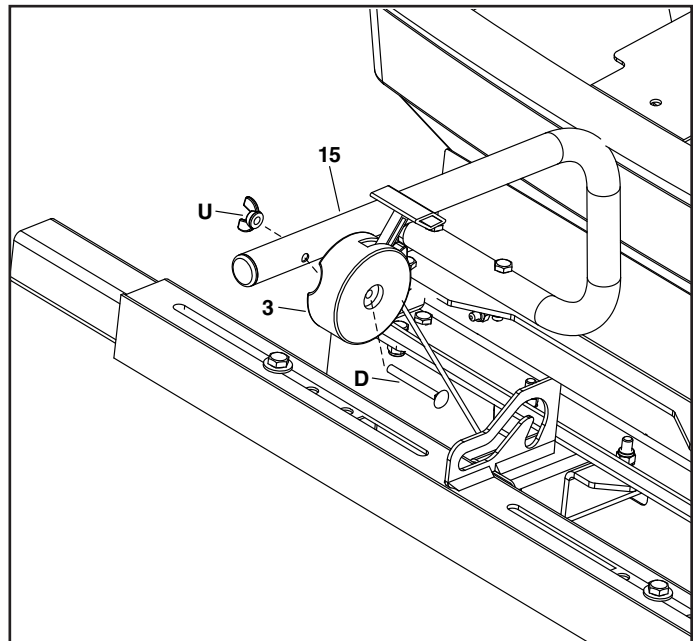

FIGURE 16
STEP 16: (SEE FIGURE 16)
- Line up the control cable housing (3) with the control mount tubes (15) hole. (Closest to the end of the tube.)
- Install one carriage bolt (D) through the housing and the tube. Secure with one nylon wing nut (U).